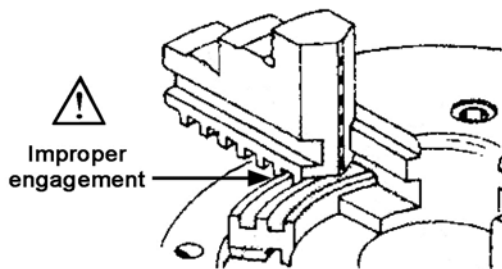

Figure 24 – Insufficient jaw tooth engagement
- Jaw teeth and scroll must be fully engaged, to prevent the jaws from breaking and being thrown from chuck (see Figure 24).